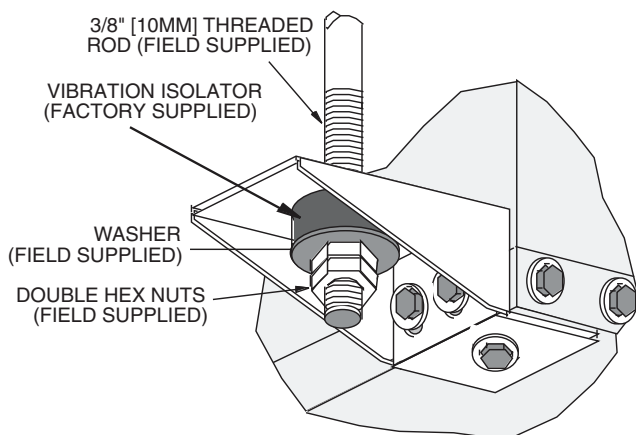

Fig. 3 — Hanger Brackets
Step 4 — Mount Unit — Units should be mounted using the factory-installed hangers. See Fig. 3. Proper attachment